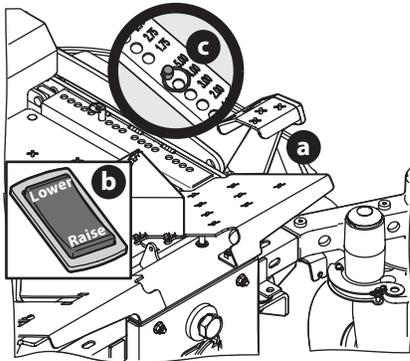

Figure 27
1. Use the deck lift pedal (a) or push down on the back of the electric deck lift switch (b) (if equipped) to raise the deck to its highest position, place the clevis pin (c) attached to the mower into the desired index hole on the deck height index, then slowly release the deck lift pedal (a) or slowly lower the deck by pressing down on the front of the electric deck lift switch (b) (Figure 27).